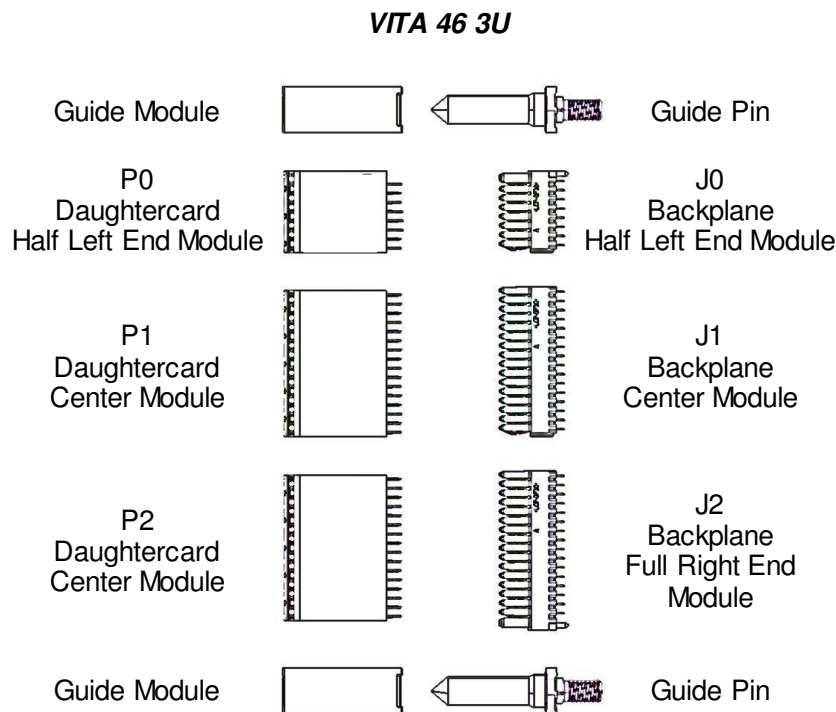

Figure 4: VITA 46 3U Configuration
- See Figure 4 through Figure 9 for examples of standard VPX configurations and part numbers